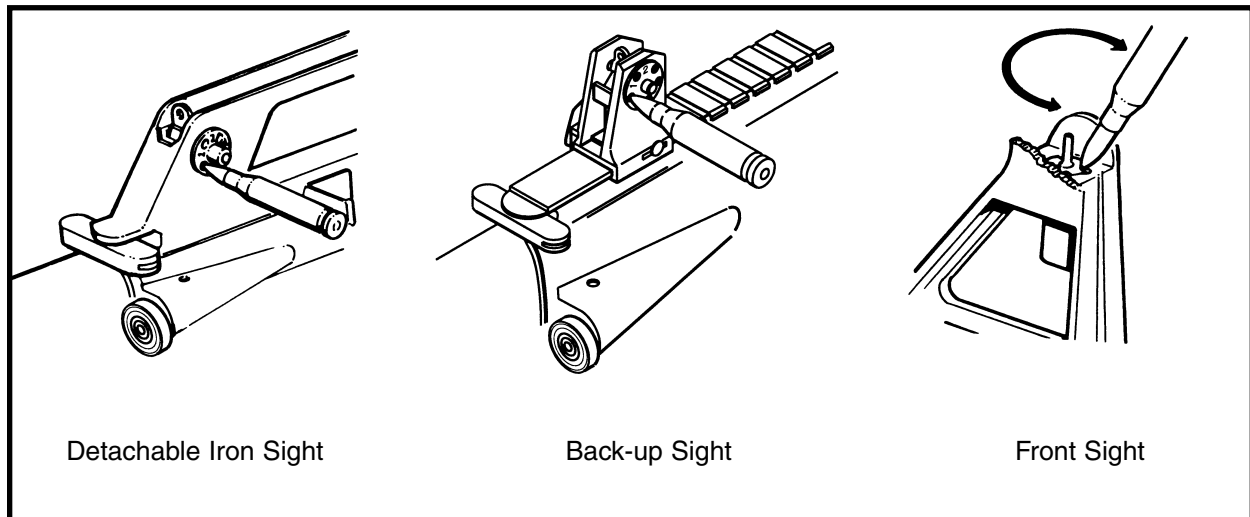

Figure 4-7 Sight Adjustment
17. **General.** Zeroing the rifle is accomplished through adjustments to both the front sight and the rear sight. See Figure 4-7.